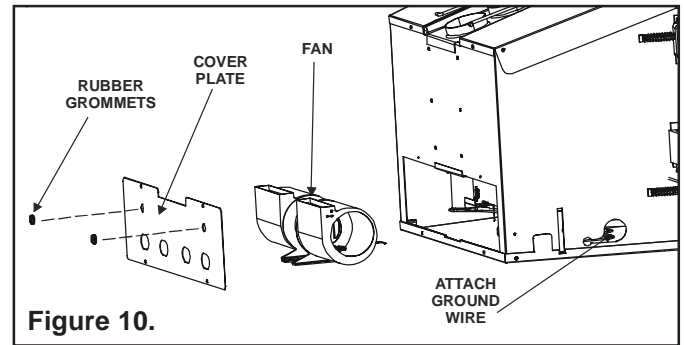

Figure 10.
- Remove the four screws on the coverplate (see Figure 10).